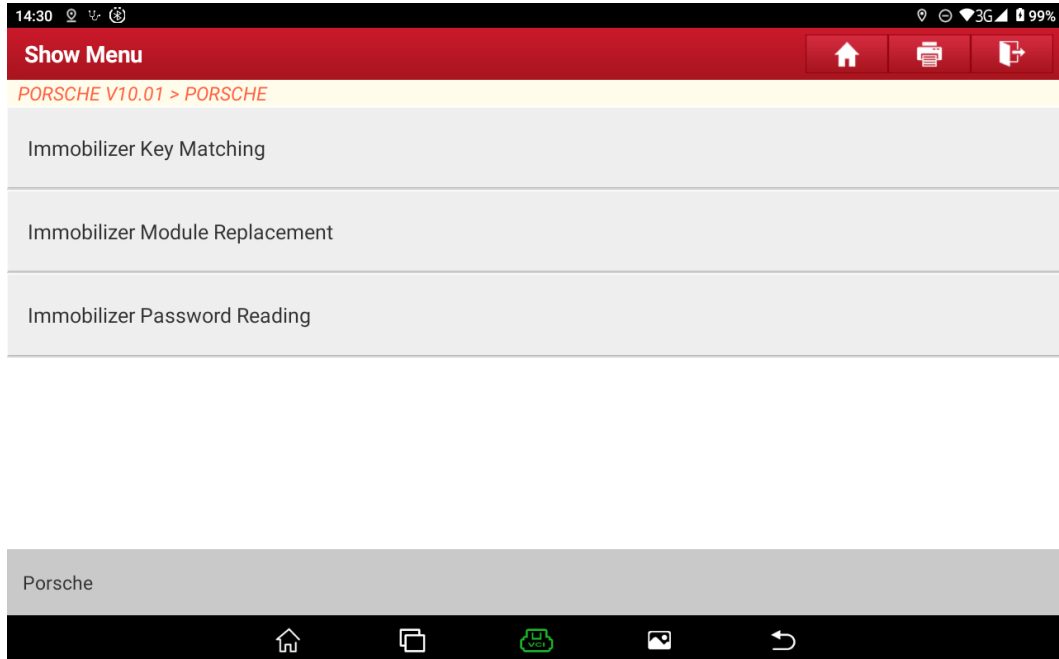

Figure 1-4 Immobilizer main function menus
3. Access the Porsche immobilizer software to display the immobilizer main function menus, as shown in Figure 1-4.